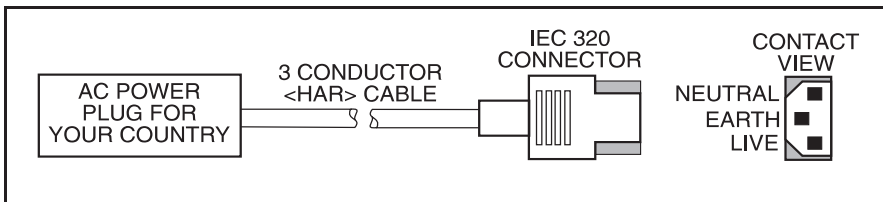

Figure 19. Power Line Cord
- The chassis ground (earth) **MUST** be connected to assure safety and reduce electromagnetic interference. The ground connection is handled by the third wire (earth) in the power line cord. See Figure 19.